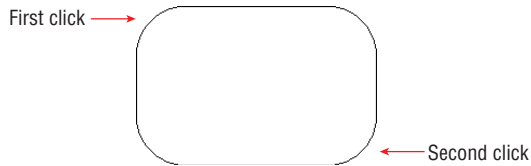

FIGURE 2.11 Rectangle drawn using its Fillet option
7. Click two points to draw the rectangle. The result has filleted corners (see Figure 2.11).